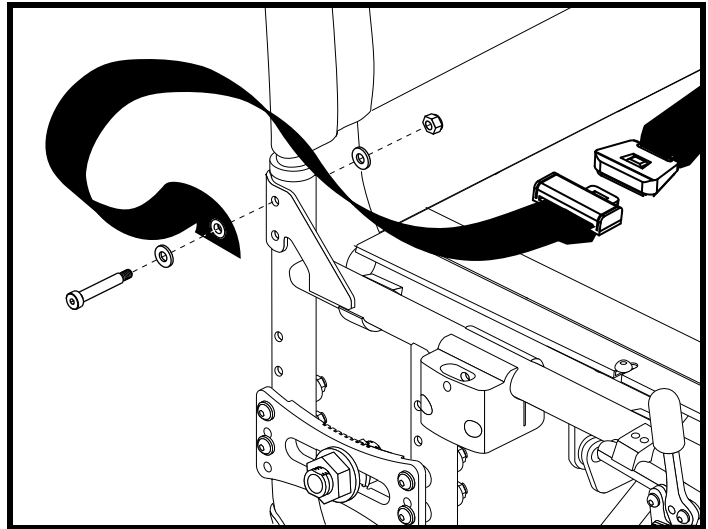

Figure 43. Positioning Belt Installation
Your wheelchair may be equipped with a positioning belt that can be adjusted for operator comfort. See figure 43. The positioning belt is designed to support the operator so that he/she does not slide down or forward in the seat. The positioning belt is not designed for use as a restraining device in a motor vehicle.
1. Remove and discard the screws on both the left and right back canes. See figure 43.
2. Insert the longer screws through the positioning belt and then through the back canes on each side of the wheelchair seat. See figure 43.